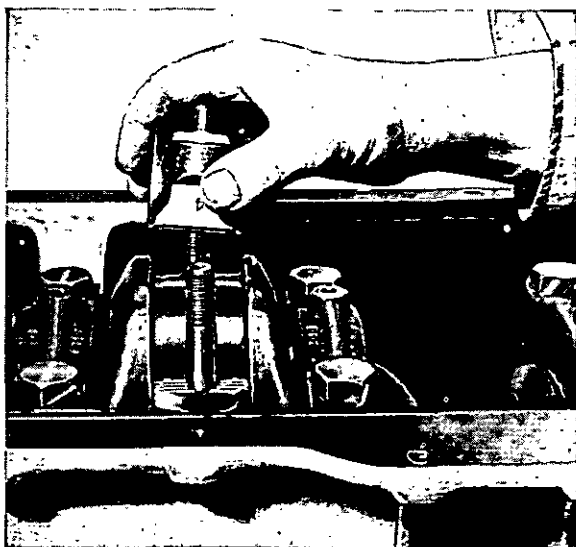

Fig. F.1 Big End Cap Removal.
4. Remove the big end caps, bearing shells and bolts (Fig. F.1).